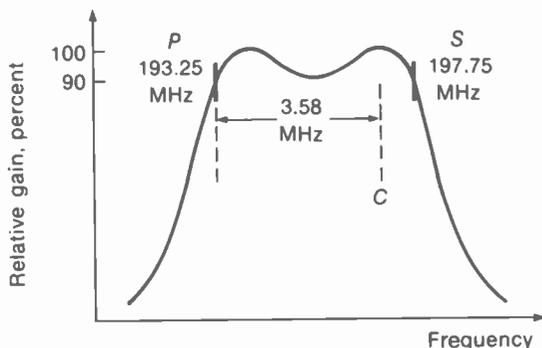

FIGURE 24-14 TYPICAL RF RESPONSE CURVE. FROM ANTENNA TO MIXER. BANDWIDTH OF 6 MHz SHOWN FOR CHANNEL 10 AT 192 TO 198 MHz.
**Rf response curve.** The graph of relative gain in Fig. 24-14 shows that the rf amplifier has 6-MHz bandwidth for each selected channel. The signals amplified are the sound carrier  $S$  and the picture carrier  $P$  with its multiplexed 3.58-MHz color subcarrier signal  $C$ . This overall rf response is from the antenna input terminals to the mixer grid. Note that the curve is shown for channel 10 at 192 to 198 MHz because this channel is generally used for rf alignment. Each channel should have this response within approximately  $\pm 10$  percent for the relative amplitudes of  $P$  and  $S$ .